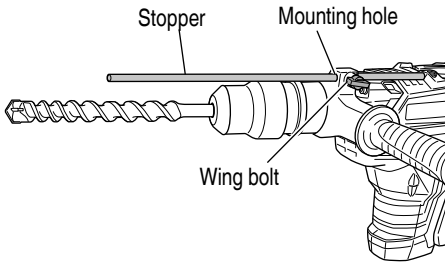

Fig. 19
- (c) Switch the selector lever to “hammering” according to the procedures mentioned in the above item (1) and secure the position of the tool.
5. Install the stopper (Fig. 19)